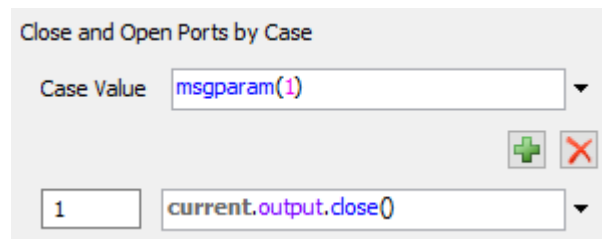

Fig. 5 *Close and Open Ports* Settings
1. **Close and Open Ports Based on Case** – based on the defined value of the given expression (*Case Value* field), the appropriate action is performed. The settings in Fig. 5 mean that the output port of the current object is the current one. `output.close()` will be closed if the object receives a message in which the value of the first parameter `msgparam(1)` will be equal to 1.